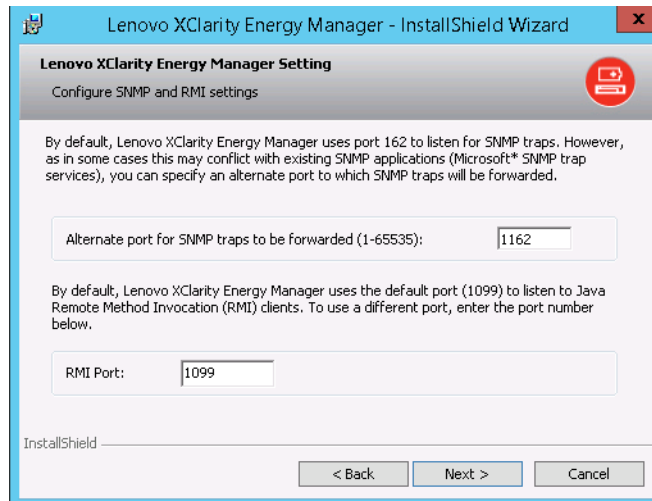

Figure 7-28 SNMP and RMI port settings
- Specify the SNMP and Java RMI ports to be used in Figure 7-28. By default Energy Manager uses port 162 to listen for SNMP traps. It is important to check that this port is available and able to be used by Energy Manager without conflict. If the port is already in use, then set a different port for SNMP traps.
Energy Manager also uses port 1099 by default to listen to Java Remote Method Invocation (RMI) clients. If this port will cause a conflict, then set a different port. Figure 7-28 displays the SNMP and RMI settings page. Click **Next** once the ports have been set.